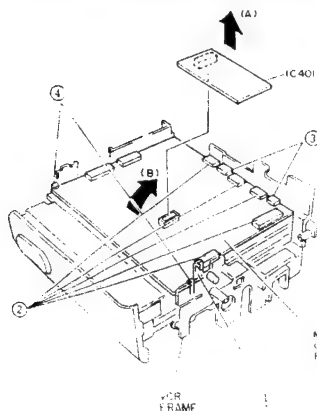
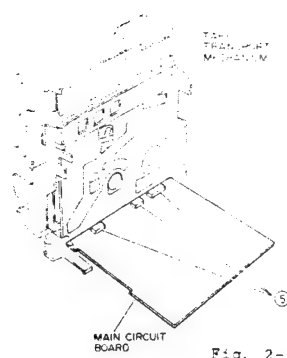

Fig. 2-31
Fig. 2-32
- 1) Release one (1) tab and remove the audio IC (IC401) from the main circuit board in the direction of arrow (A). (See Fig. 2-31)
- 2) Disconnect five (5) flat cables (CN112, CN602, CN905, CN907, CN910) on the main circuit board.
- 3) Disconnect two (2) connectors (CN113, CN904) on the main circuit board.
- 4) Release two (2) tabs and open the main circuit board in the direction of arrow (B).
- 5) Disconnect three (3) flat cables (CN601, CN604, CN906) on the main circuit board and remove the main circuit board from the tape transport mechanism. (See Fig. 2-32)